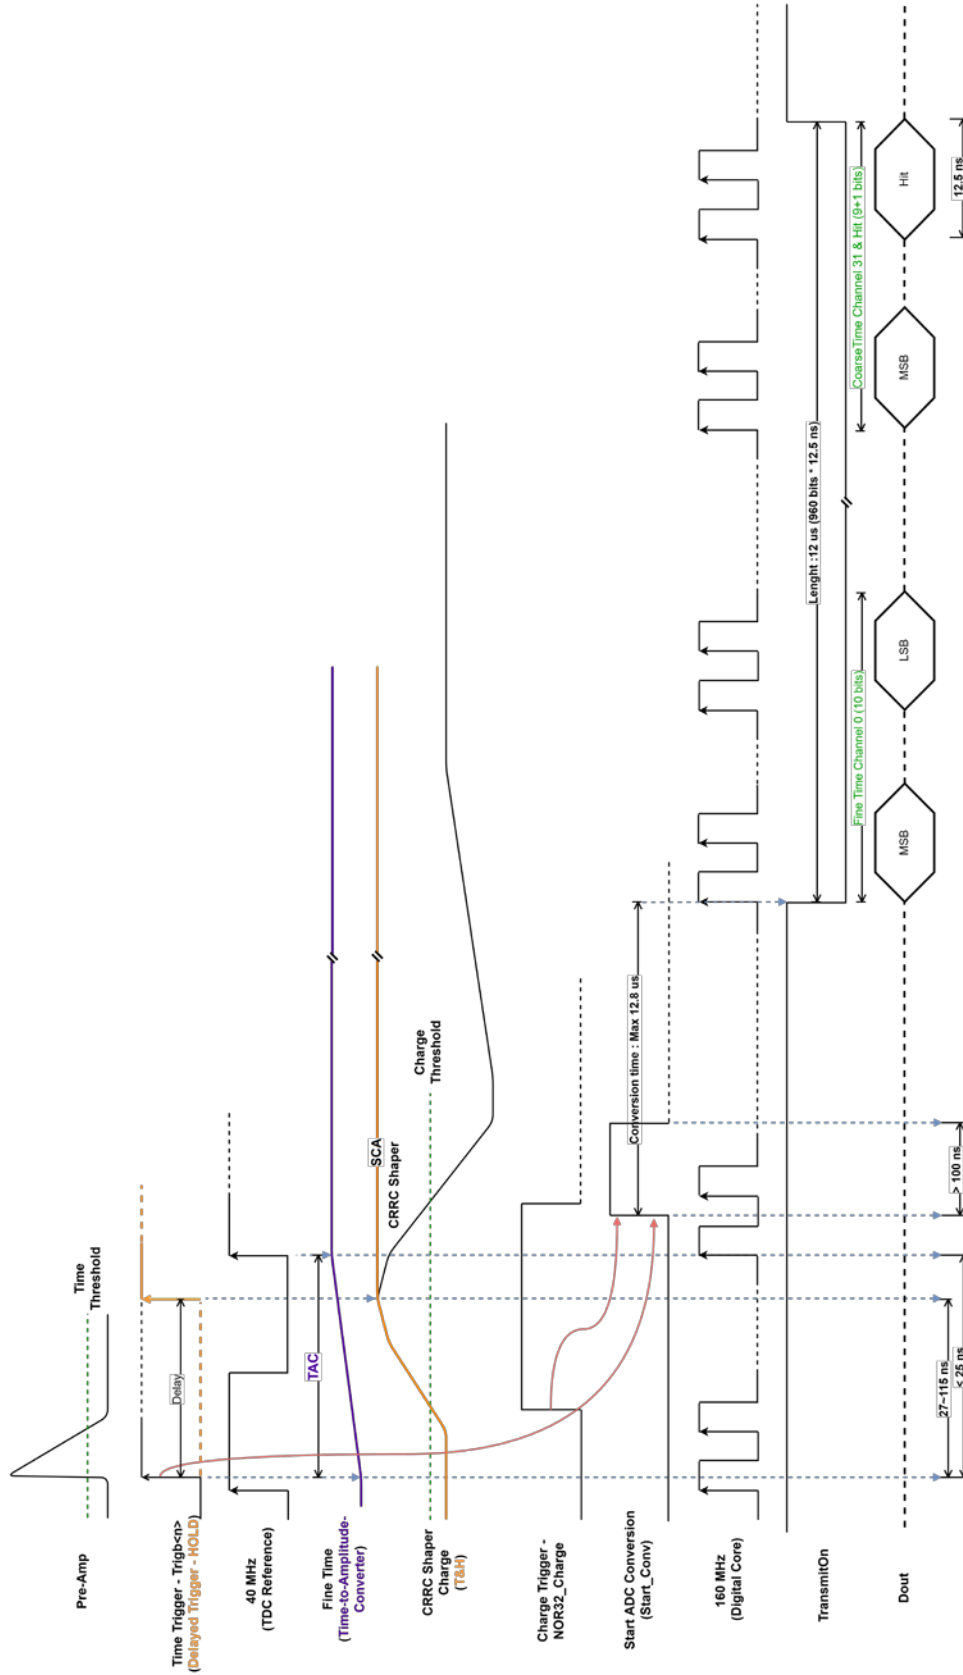

Figure 14 - Timing diagram of Petiroc 2A readout sequences
- Start conversion signal (start_conv - LVCMOS input at pin 126 or P22) – A high level pulse (> 100 ns) will initiate the analog-to-digital conversion for Fine time and Charge signal. This asynchronous signal has to be asserted after the ASIC triggers fired and all the analog signals are correctly sampled internally (refer to Figure 14).
Illustration of the readout sequences for Petiroc 2A is shown in Figure 14. As stated at the beginning of this section, the readout will start once user sends Start Conversion (start_conv) input. As this signal is an asynchronous input, users will be interested to know when the ASIC is ready to convert the internal analog signals (Fine Time and Charge). In this case, various trigger outputs (trigb<0..31>, nor32_time & nor32_charge) can be used for triggering the readout sequences on the FPGA side and eventually assert the Start_Conv signal to the ASIC.